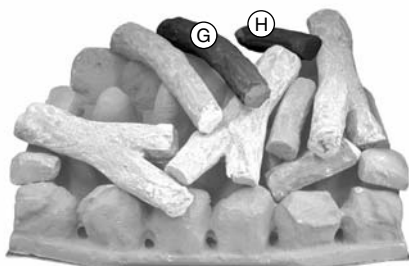

Fig. 37
8. Place the next two logs on the coal bed, ensuring that they sit on top of the fuel bed peaks (Fig. 37).